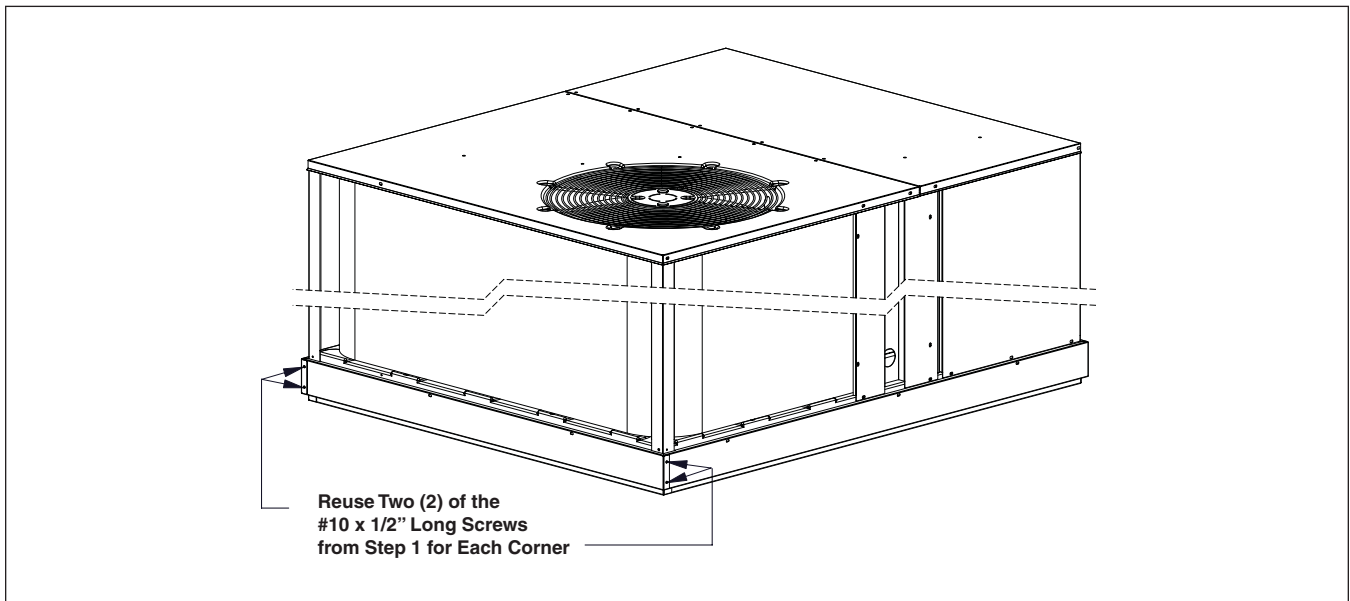

Figure 4
6. Secure the four corner flanges of all the rail covers to the underling rail covers with the eight (8) of the screws you had removed and saved in Step 1 above. (See Figure 4 below) Two (2) screws in each rail cover corner flanges. The two unused screws from Step 1 above are extra and may be discarded.